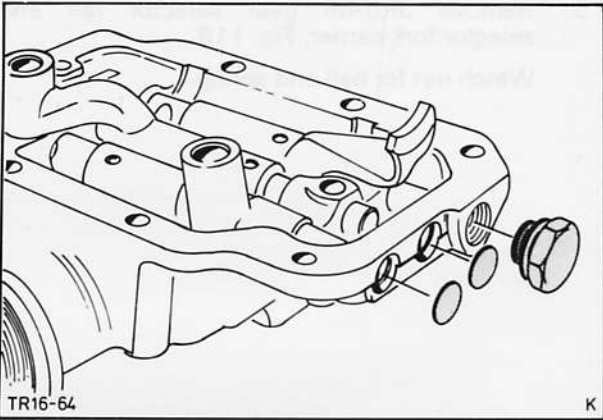

Fig. 115. Detach blanking disks and plug from selector housing
2. Detach blanking disks and threaded plug or reversing lamp switch from selector housing, Fig. 115.